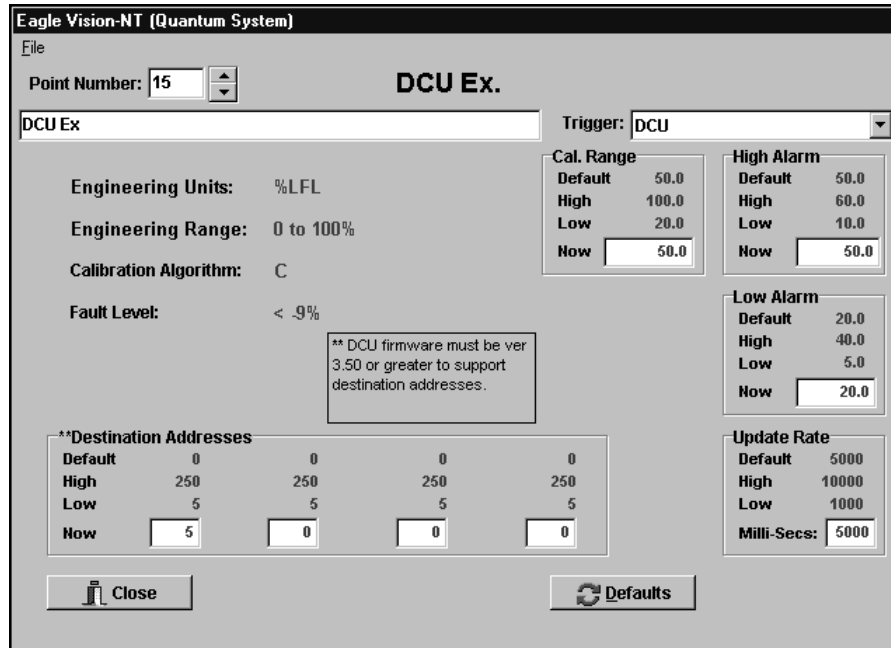

FIGURE V-5
3. Click on the appropriate button for the type of device being configured, then click on OK. The DCU Configuration screen will be displayed. See Figure V-5.